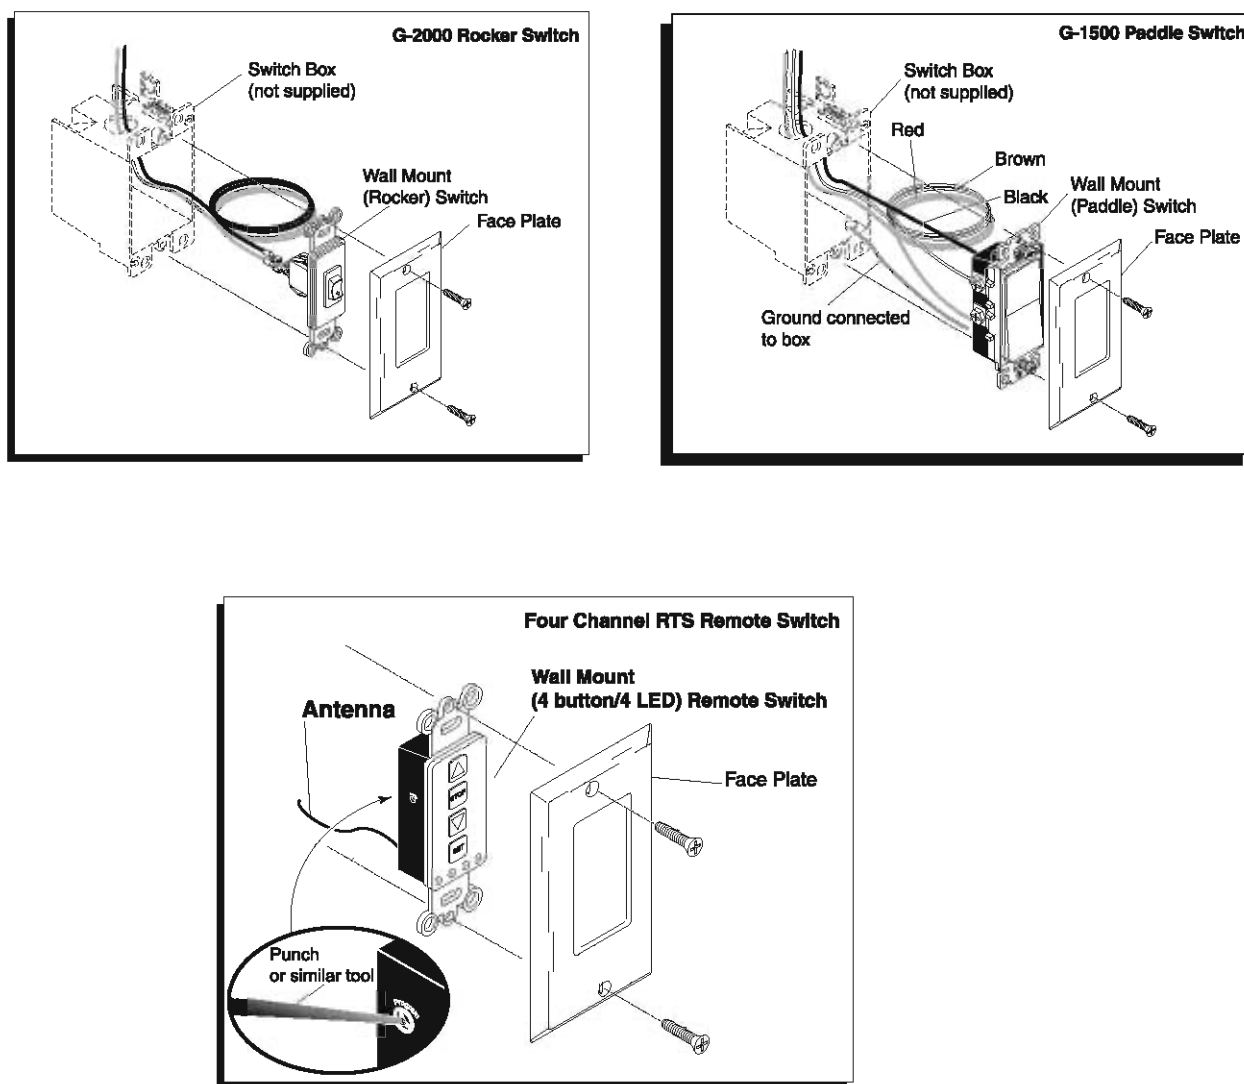

FIGURE 1
1. Using Remote Control (See Fig. 1)
2. Using Wall Mount Rocker or Paddle Switch (See Fig. 1)
- a. The Motor supplied with your Girard G-2000 Awning and/or G-1500 Awning is a high torque/low RPM motor which has been carefully selected for reliability and application compatibility. It is designed for intermittent use with a rating of six (6) minutes per hour. If the motor's run-time exceeds this time period, a built-in circuit breaker will disable motor from operation. Generally, this condition will occur only during excessive periods of usage/